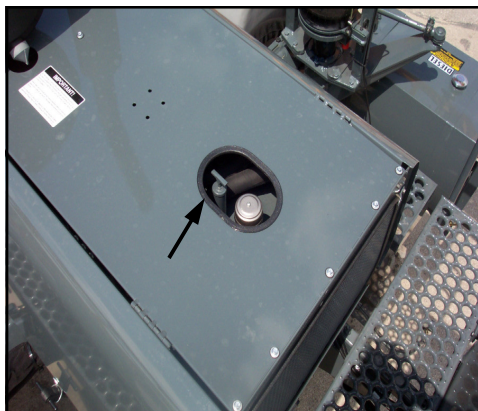

FIG 8.2
**OIL LEVEL** - Check the hydraulic oil level in the reservoir daily (fig. 8.2). Add just enough fluid so the level reaches the bottom tip of the dipstick. Always check the hydraulic oil level when it is cool. Hydraulic oil will expand when heated in a system and measuring the reservoir by these levels allows for expansion.